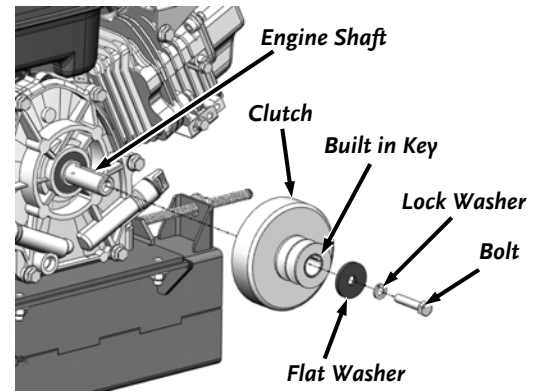

Figure 24
- Remove the Bolt, Lock Washer and large Flat Washer from the Clutch with a 1/2" Wrench and remove the Clutch from the Engine Shaft (**Figure 24**).